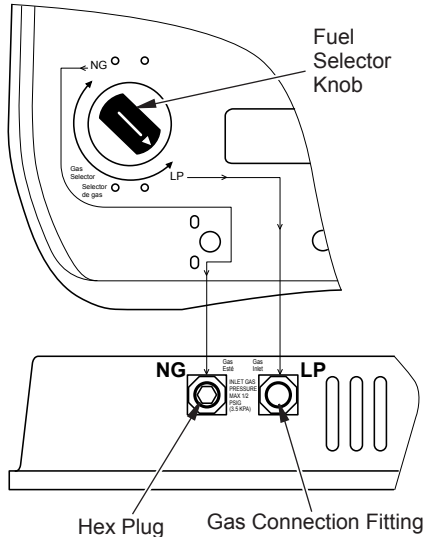

Figure 13 - Settings for Propane/LP Gas Selection
1. Remove top screw from cover plate located on back of heater (see Figure 13). Rotate to expose fuel selection device.
2. For propane gas, press in knob using a flat screwdriver with a blade the thickness of a quarter and turn knob counterclockwise until the knob locks into the LP position (see Figure 13). Fuel selection device must be locked in the LP position. Do not operate heater between locked positions.